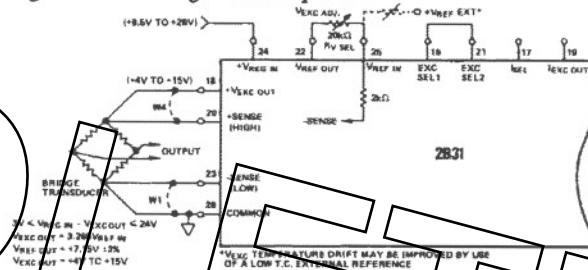

Figure 2. Constant Voltage Excitation Connections
**Voltage Excitation Programming:** Pin connections for a constant voltage output operation are shown in Figure 2.
The bridge excitation voltage, VEXC, is adjusted between +4V to +15V by the 20kΩ (50ppm/°C) RVSEL potentiometer. For ratiometric operation, the bridge excitation can be adjusted by applying an external positive reference to pin 25 of the 2B31. The output voltage is given by: VEXC OUT = 3.265VREF IN. The remote sensing leads should be externally connected to the excitation leads at the transducer or jumpered as shown in Figure 2 if sensing is not required.